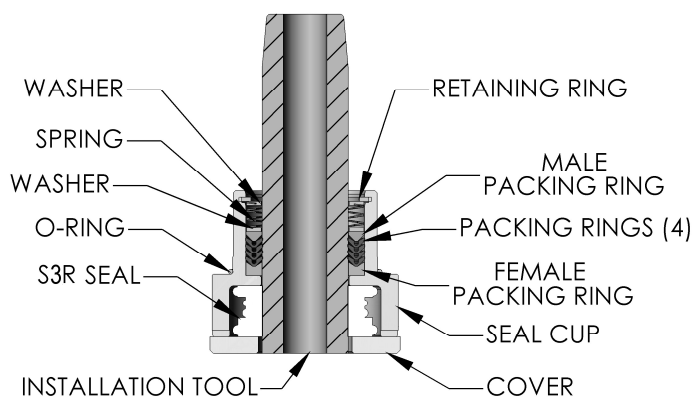

Figure 14a – Seal Cup Assembly
- Install the S3R seal in the seal cup as shown in figure 14a. Place the S3R seal on the packing installation tool in the order shown in figure 14b, with the upper segment toward the tapered end of the installation tool. Insert the installation tool, with the S3R seal, into the seal cup, with the tapered end toward the packing rings. Place seal cup cover on seal cup and secure with two capscrews